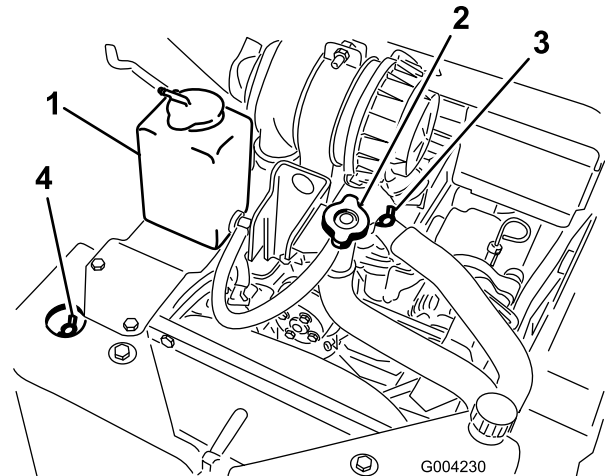

Figure 20
- A. Remove the coolant fill cap (Figure 20).
- B. Open the front and top coolant bleed valves (Figure 20).
- C. Pour coolant into the coolant filler neck until the coolant begins to come out of the front coolant bleed valve (Figure 20).
- D. Close the front coolant bleed valve (Figure 20).
- E. Pour coolant into the coolant filler neck until the coolant begins to come out of the top coolant bleed valve (Figure 20).
- F. Close the top coolant bleed valve (Figure 20).
- G. Pour coolant into the coolant filler neck until the coolant level comes into the filler neck (Figure 20).
- H. Install the coolant fill cap (Figure 20).
- I. Add coolant into the expansion tank until it reaches the Full line on the side of the tank (Figure 20).